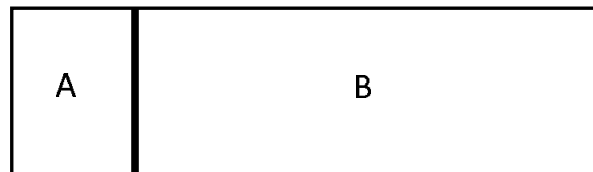

Figure 2: Schematic for Problem 2
2. A rigid tank is initially separated into Chamber A and Chamber B by a very thin plate, as shown in Figure 2. Initially, both chambers contain water under different conditions. The volume of Chamber A is $V_A = 0.203 \text{ m}^3$, and the mass of the water in Chamber B is $m_{B1} = 0.2 \text{ kg}$ initially. At the initial state (State 1), the temperature and pressure of the water in Chambers A and B are $T_{A1} = 55^\circ\text{C}$ and $P_{A1} = 200 \text{ kPa}$ and $T_{B1} = 150^\circ\text{C}$ and $P_{B1} = 20 \text{ kPa}$, respectively. Then, the plate is suddenly removed and the water in the two chambers combines. The combined water in the rigid tank is then heated until the final equilibrium state (State 2) is reached, with a final temperature $T_2 = 175^\circ\text{C}$. The volume of the plate can be ignored.